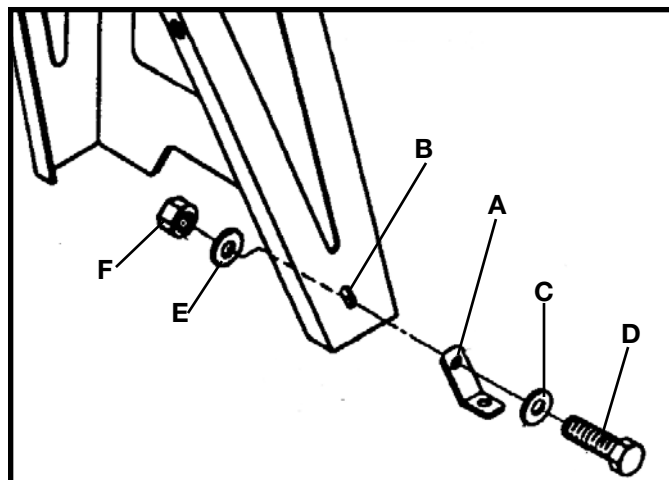

Fig. 8
Align the hole in the "L" shaped floor mounting bracket (A) Fig. 8, with the hole in the bottom of the right leg (B). Insert a 5/16" flat washer (C) onto a 5/16-18x1/2" hex head screw (D). Insert screw through the floor mounting bracket (A) and the right leg. Place a 5/16" flat washer (E) onto the screw (D) and tighten securely. Repeat this process for the remaining hole on the other side of the right leg. Then secure the two brackets to the supporting surface.